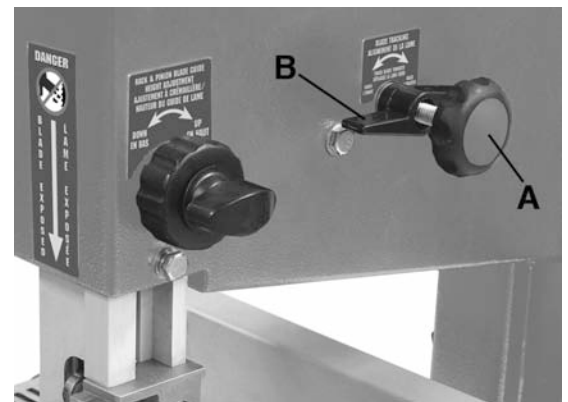

FIGURE 11
- 2) Loosen blade tracking lock knob (A) Fig.11 located at the rear of the bandsaw behind the upper wheel.
- 3) If the blade moved toward the front of the saw, turn the adjustment handle (B) clockwise while turning the wheel by hand until the blade rides in the centre of the tire. If the blade moved away the front of the saw, turn the adjustment handle counterclockwise while turning the wheel by hand until the blade rides in the centre of the tire.